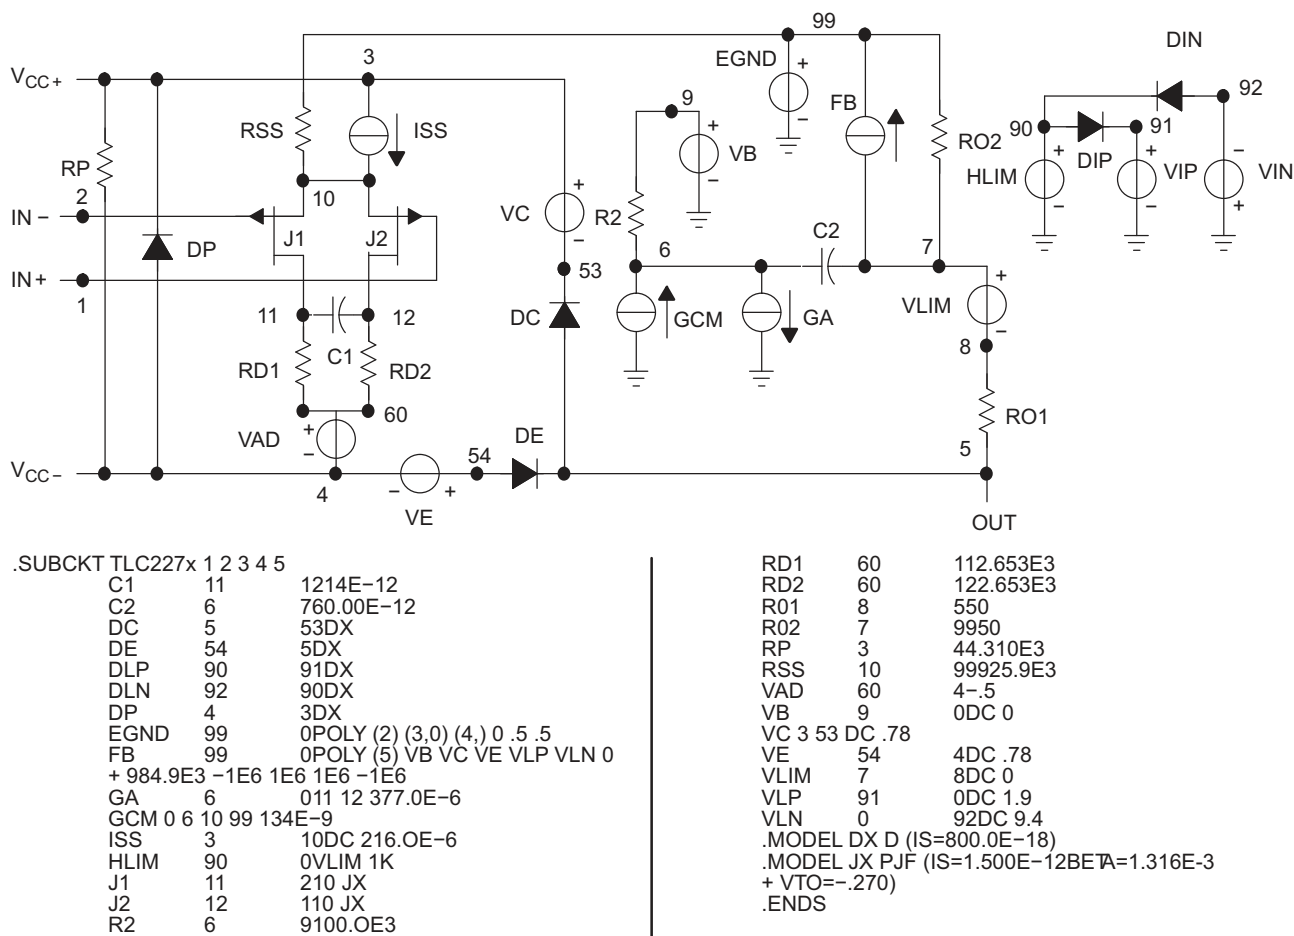

Figure 46. Boyle Macromodels and Subcircuit
Macromodel information provided was derived using Microsim Parts, the model generation software used with Microsim PSpice. The Boyle macromodel (1) and subcircuit in Figure 46 are generated using the TLC227x typical electrical and operating characteristics at  $T_A = 25^\circ\text{C}$ . Using this information, output simulations of the following key parameters can be generated to a tolerance of 20% (in most cases):